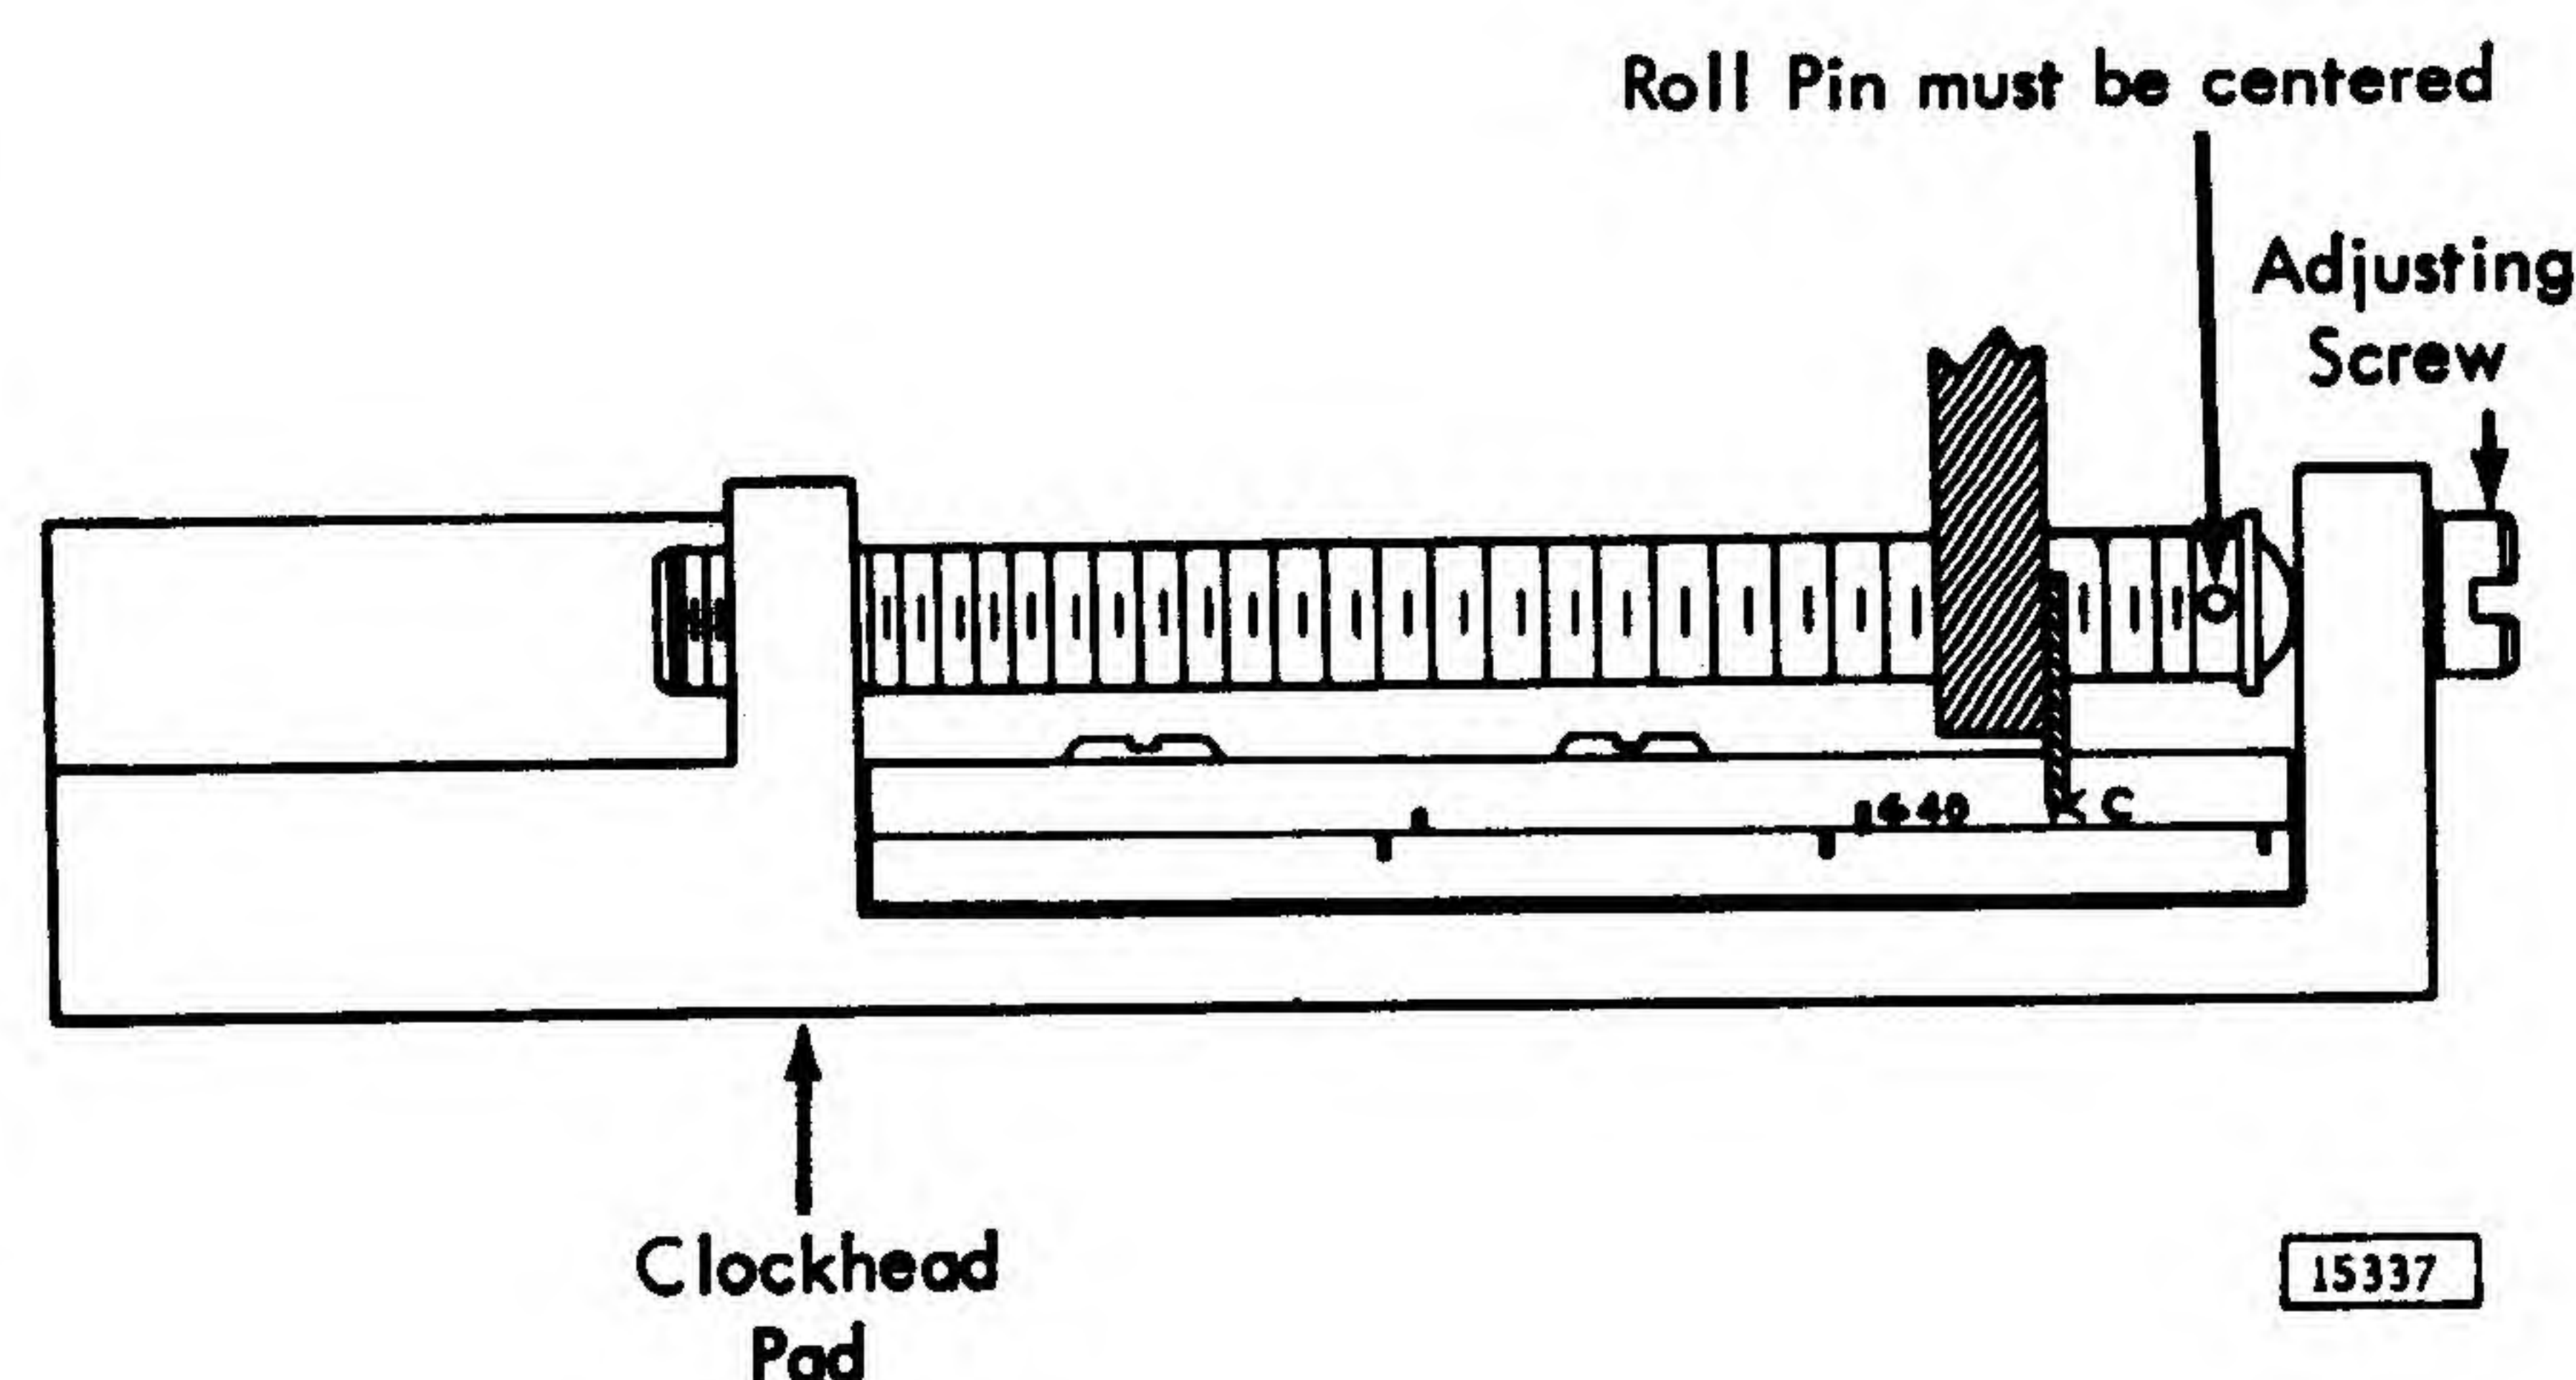

Figure 4-26. Clock Head Adjustment
2. Replace clock head assembly by slipping over locating pins. By means of the adjusting screw (Figure 4-26), adjust clock head as far in as possible and install rear mounting screw. Check for proper head-to-disk clearance ( $0.050 \pm 0.020$ -inch). Back off clock head to extreme out position and install front mounting screw.